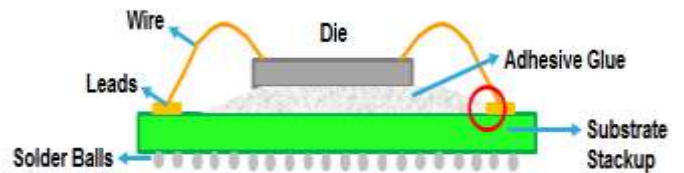

Fig. 2. Adhesive glue flowing into the leads.
- Contaminated leads were encountered on a substrate-based package, with contaminants coming from the adhesive glue as encircled in Fig. 2